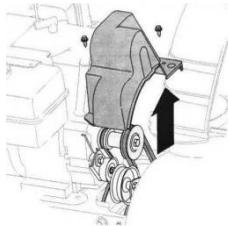

Fig. 10
Remove the belt cover from the front of the engine by removing the two screws. See Fig. 10
- Remove the belt cover from the front of the engine by unscrewing the two retaining screws. See Fig. 10.